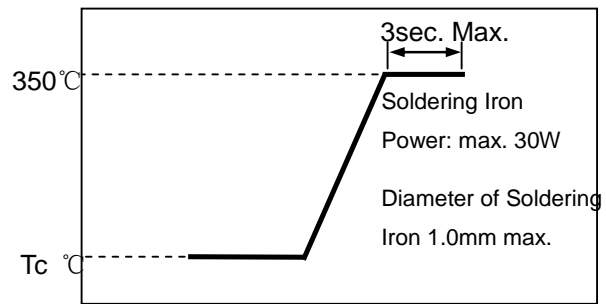

**Fig. 11.1-1**
- 7) Please refer to Fig. 11.1-1.